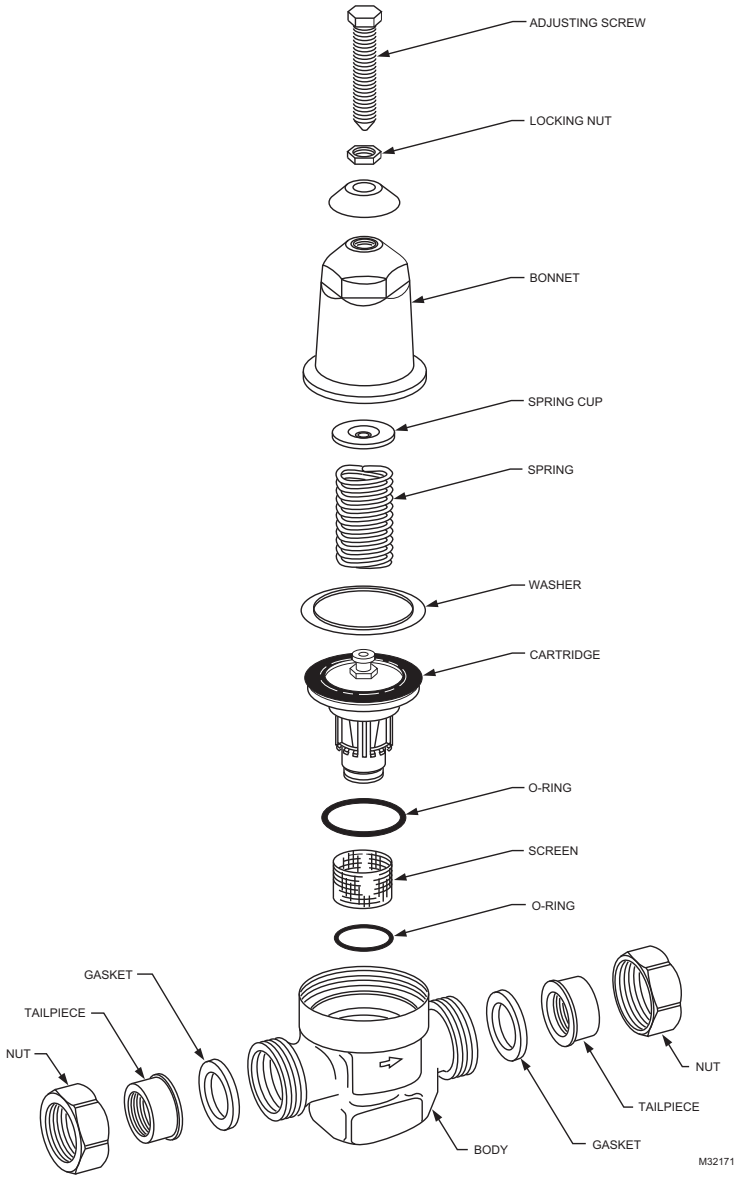

Fig. 3. D05T exploded view.
4. Remove the cartridge using two screwdrivers as levers as shown in Fig. 3.
10. Replace the spring, spring cup and bonnet (see Fig. 3).